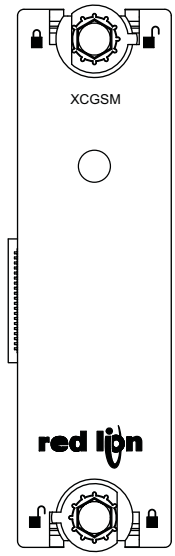

Figure 3
3. Verify that the option card knobs are in the "unlocked" position as shown in Figure 3.